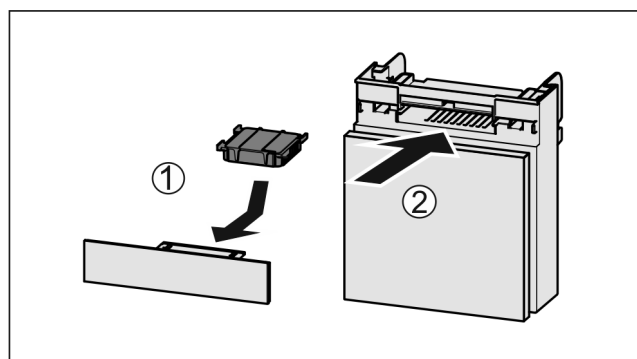

Fig. 163
- ▶ Insert the carbon filter as shown in the diagram *Fig. 163 (1)*.
- ▶ Push the compartment in *Fig. 163 (2)*.